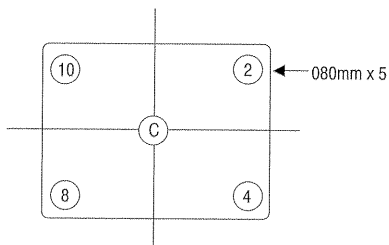

Fig. 2-1-2-5
- (12) Turn over the direction of CPT axis direction magnetic field of the Earth's magnetic field and check it by the same C way as item (11). The positions of mislanding criteria with microscope should be 2, 4, 8 and 10. (Fig. 2-1-2-5)